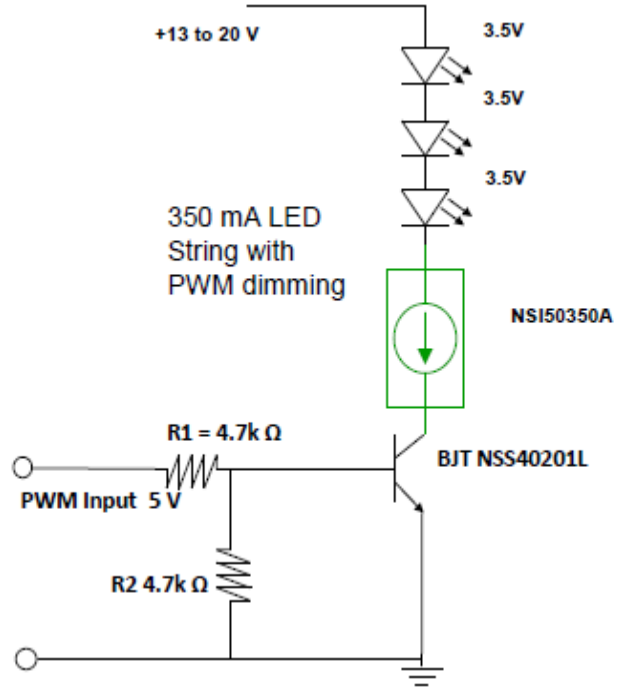

Figure 15.
For a series circuit with PWM dimming capability (Figure 15), the power dissipation of the CCRs is determined by analysis for worst case condition to account for 100% duty cycle. See Example 1. For analysis data. The method of pulsing the current through the LEDs is known as Pulse Width Modulation (PWM) and has become the preferred method of changing the light level. LEDs being a silicon device, turn on and off rapidly in response to the current through them being turned on and off. The switching time is in the order of 100 nanoseconds, this equates to a maximum frequency of 10 MHz. Applications will typically operate from a 100 Hz to 100 kHz. Below 100 Hz the human eye will detect a flicker from the light emitted from the LEDs. Between 500 Hz and 20 kHz the circuit may generate audible sound. Dimming is achieved by turning the LEDs on and off for a portion of a single cycle. This on off cycle is called the Duty cycle (D) and is expressed by the amount of time the LEDs are on ( $T_{on}$ ) divided by the total time of a on/off cycle ( $T_s$ ).